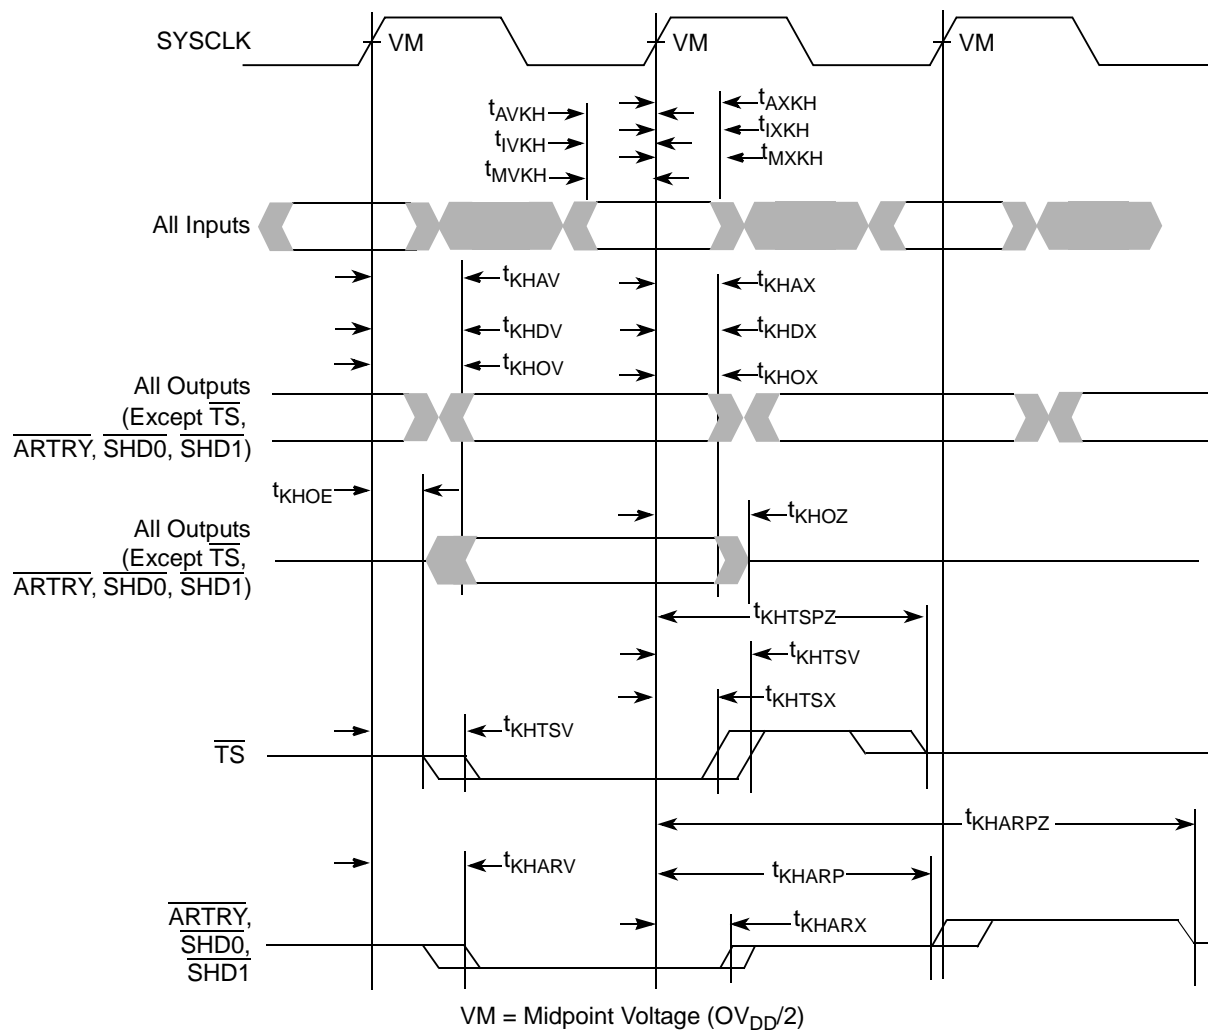

Figure 6. Input/Output Timing Diagram
Table 8 provides the clock AC timing specifications as defined in Figure 6 and represents the tested operating frequencies of the devices. The maximum system bus frequency, f_{SYSCLK} , given in Table 8 is considered a practical maximum in a typical single-processor system. The actual maximum SYSCLK frequency for any application of the MPC7457 will be a function of the AC timings of the MPC7457, the AC timings for the system controller, bus loading, printed-circuit board topology, trace lengths, and so forth, and may be less than the value given in Table 8.
2. The symbology used for timing specifications herein follows the pattern of $t_{(\text{signal})(\text{state})(\text{reference})(\text{state})}$ for inputs and $t_{(\text{reference})(\text{state})(\text{signal})(\text{state})}$ for outputs. For example, t_{VKKH} symbolizes the time input signals (I) reach the valid state (V) relative to the SYSCLK reference (K) going to the high (H) state or input setup time. And $t_{\text{KH OV}}$ symbolizes the time from SYSCLK(K) going high (H) until outputs (O) are valid (V) or output valid time. Input hold time can be read as the time that the input signal (I) went invalid (X) with respect to the rising clock edge (KH) (note the position of the reference and its state for inputs) and output hold time can be read as the time from the rising edge (KH) until the output went invalid (OX).
4. According to the bus protocol, $\overline{\text{TS}}$ is driven only by the currently active bus master. It is asserted low then precharged high before returning to high impedance as shown in Figure 6. The nominal precharge width for $\overline{\text{TS}}$ is $0.5 \times t_{\text{SYSCLK}}$, that is, less than the minimum t_{SYSCLK} period, to ensure that another master asserting $\overline{\text{TS}}$ on the following clock will not contend with the precharge. Output valid and output hold timing is tested for the signal asserted. Output valid time is tested for precharge. The high-impedance behavior is guaranteed by design.
6. According to the bus protocol, $\overline{\text{ARTRY}}$ can be driven by multiple bus masters through the clock period immediately following AACK. Bus contention is not an issue because any master asserting $\overline{\text{ARTRY}}$ will be driving it low. Any master asserting it low in the first clock following AACK will then go to high impedance for one clock before precharging it high during the second cycle after the assertion of AACK. The nominal precharge width for $\overline{\text{ARTRY}}$ is $1.0 t_{\text{SYSCLK}}$; that is, it should be high impedance as shown in Figure 6 before the first opportunity for another master to assert $\overline{\text{ARTRY}}$. Output valid and output hold timing is tested for the signal asserted. The high-impedance behavior is guaranteed by design.
Figure 6 provides the input/output timing diagram for the MPC7457.